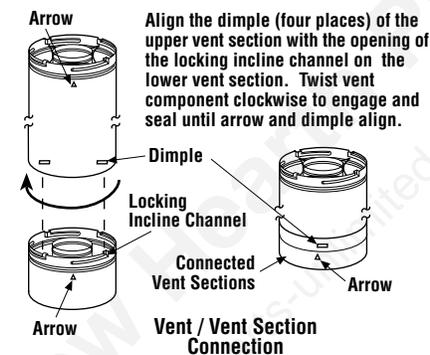

Figure 18
B. Attach vent components to appliance - Secure Vent SV4.5 direct vent system components are unitized concentric pipe components featuring positive twist lock connections (see **Figure 18**).
Push the vent component against the previous section until it fully engages, then twist the component clockwise running the dimples down and along the incline channels until they seat at the end of the channels. **This seating position is indicated by the alignment of the arrow and dimple as shown in Figure 18.**